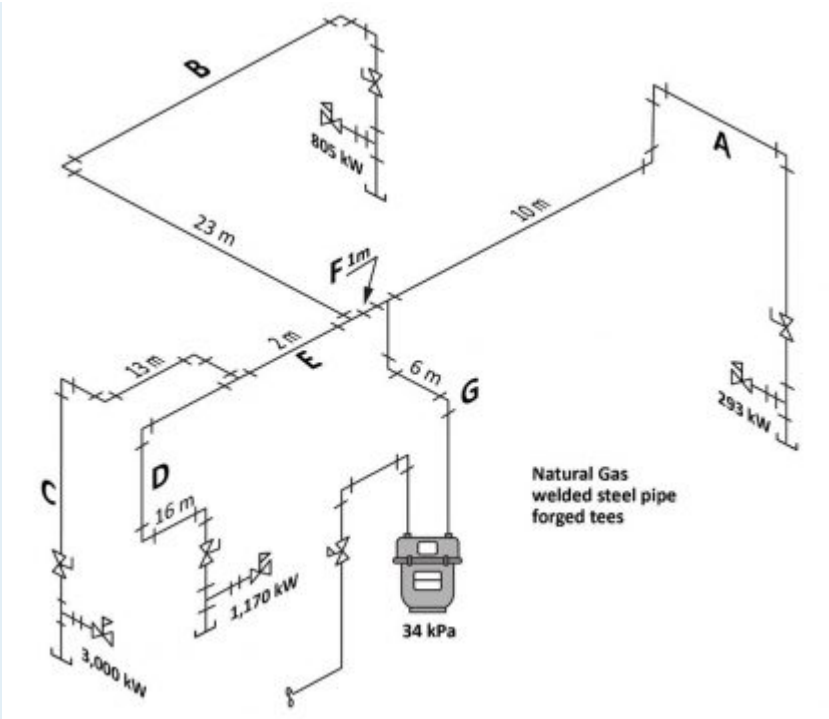

Figure 3
2. Size the drawing in Figure 3 and show all calculations.
- Figure 3 by Camosun College is licensed under a CC BY 4.0 licence (<https://creativecommons.org/licenses/by/4.0/>).